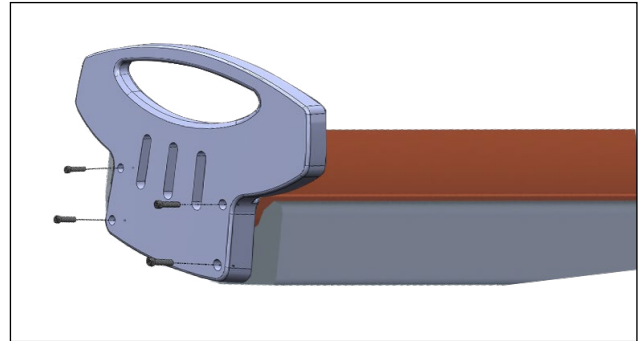

Fig. 18
2. Install Foot Plate using the M6 x 35 mm SHCS provided (Fig. 18).